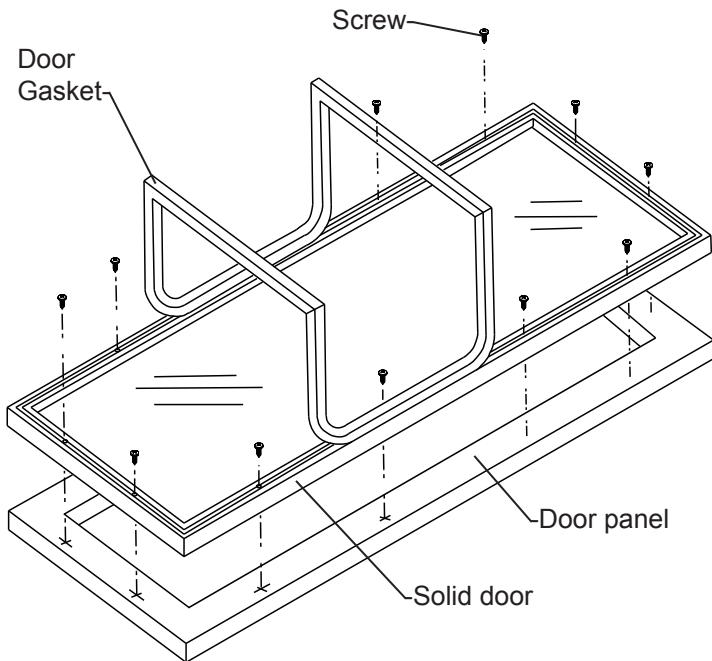

Figure 25
1. A #10 pan head wood screw should be used to properly secure the overlay panel (See Figure 25). Screws are supplied with unit.
1. Remove the gasket from the door front. (See Figure 25). Do this by pulling the gasket out of the channel that holds it to the door front. This will expose the clearance holes for mounting the custom overlay panel. (See Figure 25).
2. Set the door on the overlay panel and align edges. (See Figure 25). Clamp panel in position and mark pilot hole locations. Pick the required pilot hole size from "Table E" below and drill the pilot holes ensuring not to drill all the way through the overlay panel.